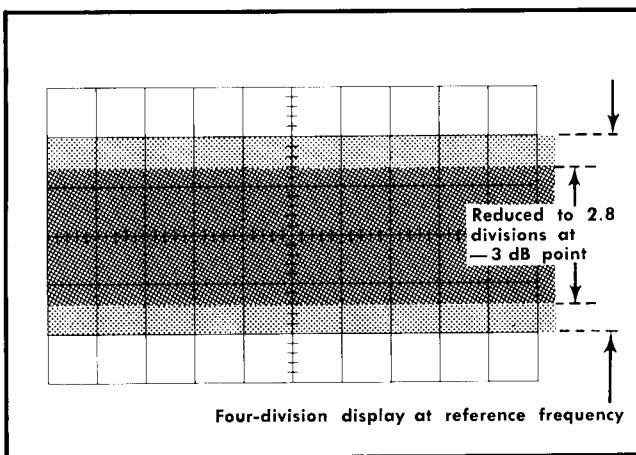

Fig. 6-29. Typical CRT display when checking vertical bandwidth.
e. Without changing the output amplitude, increase the output frequency of the generator until the display is reduced to 2.8 divisions (-3 dB point; see Fig. 6-29).
d. Without changing the output amplitude, increase the output frequency of the generator until the deflection is reduced to 2.8 divisions (−3 dB point; see Fig. 6-29).
j. Without changing the output amplitude, increase the output frequency of the generator until the deflection is reduced to 2.8 divisions (−3 dB point; see Fig. 6-29).
e. Without changing the output amplitude, increase the output frequency of the generator until the deflection is reduced to 2.8 divisions (−3 dB point; see Fig. 6-29).
k. Without changing the output amplitude, increase the output frequency of the generator until the deflection is reduced to 2.8 divisions (−3 dB point; see Fig. 6-29).
- d. Without changing the output amplitude, increase the output frequency of the generator until the deflection is reduced to 2.8 divisions (—3 dB point; see Fig. 6-29).
- d. Without changing the output amplitude, reduce the output frequency of the generator until the deflection is reduced to 2.8 divisions (—3 dB point; see Fig. 6-29).
- i. Without changing the output amplitude, reduce the output frequency of the generator until the deflection is reduced to 2.8 divisions (—3 dB point; see Fig. 6-29).